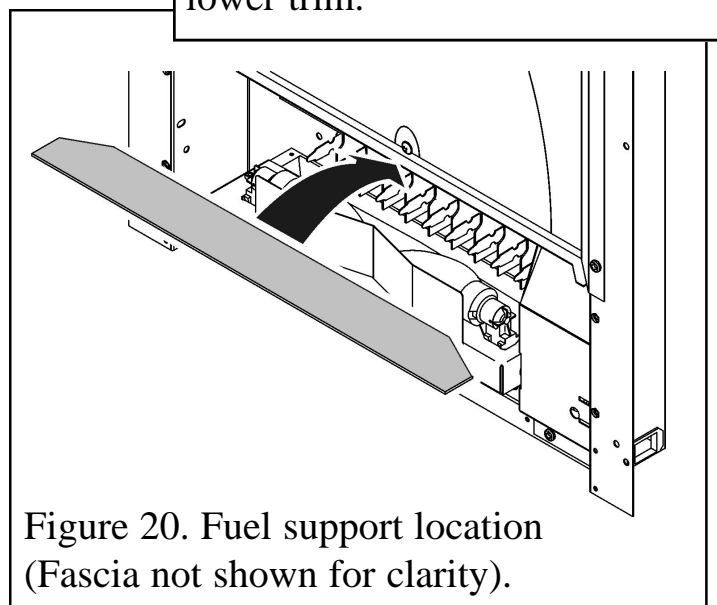

Figure 20. Fuel support location (Fascia not shown for clarity).
1. Locate the fuel support as in figure 20.